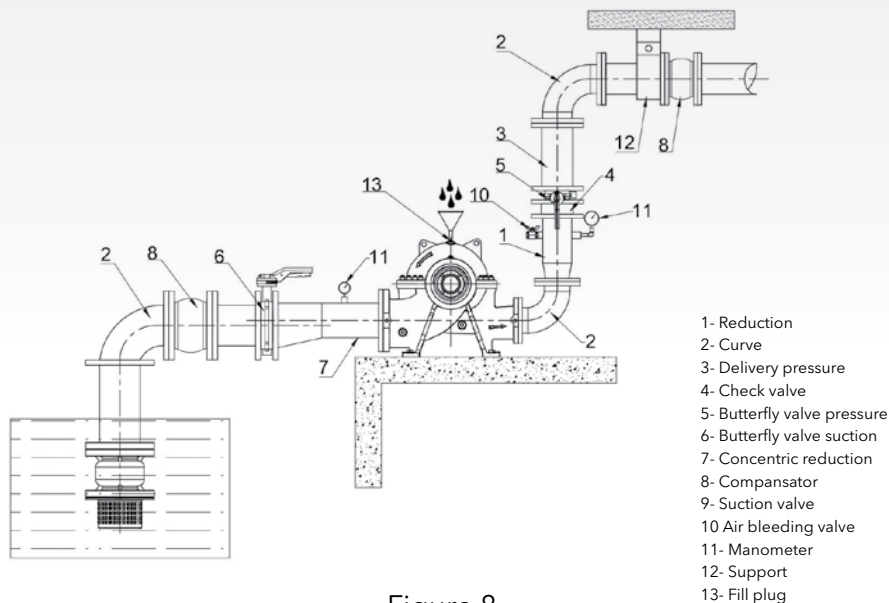

Figure 8
- The suction lift line has been laid with a rising slope, at positive suction head line with a downward slope towards the pump Fig. 8 page 19.